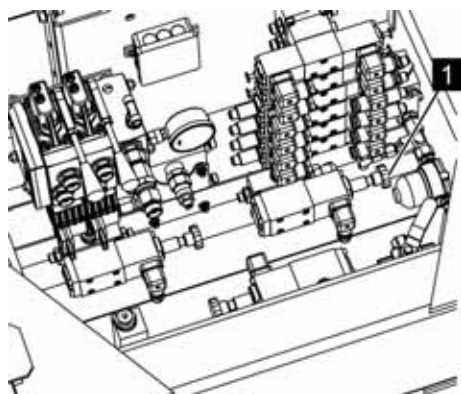

Fig. 115: Shuttle valve
8. ➤ After service operation, unlock the shuttle valve (Fig. 115/1).
- Make sure that the shuttle valve (Fig. 115/1) is completely unlocked for normal operation.